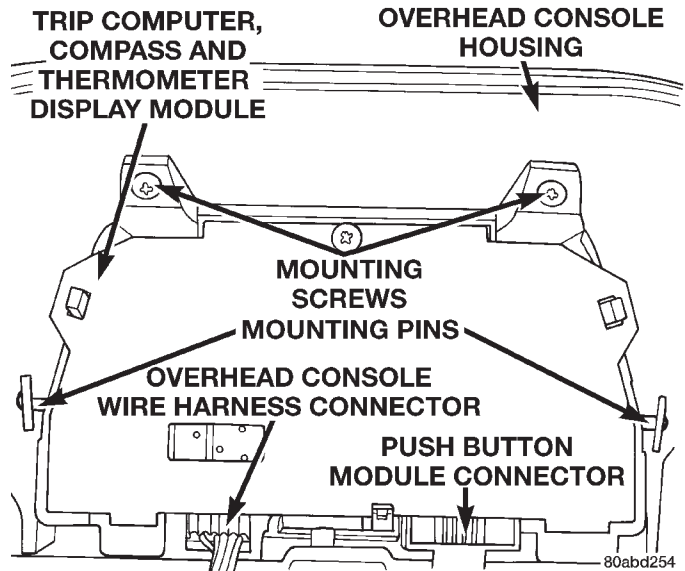

Fig. 4 Trip Computer, Compass, and Thermometer Display Module Remove/Install
- (1) Remove the overhead console from the vehicle. See Overhead Console in this group for the procedures.
- (2) Remove the two screws that secure the forward end of the trip computer, compass, and thermometer display module to the overhead console housing (Fig. 4).
- (3) Gently flex the sides of the overhead console housing as required to release the trip computer, compass, and thermometer display module mounting pins.
- (4) Pull the trip computer, compass, and thermometer display module away from the overhead console housing far enough to access the two wire harness connectors.
- (5) Unplug the overhead console and push button module wire harness connectors from the trip computer, compass, and thermometer display module.